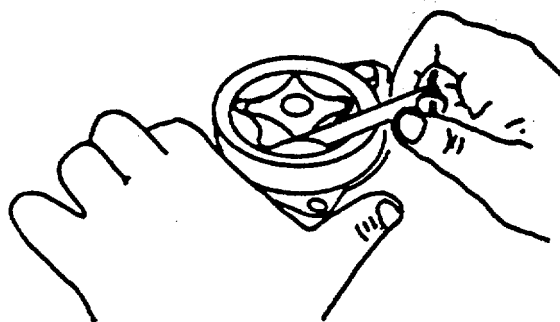

FIGURE 3-64. Tip Clearance Measurement
- g. Measure the tip clearance (FIGURE 3-64). Maximum: 0.007 inch (0.1678 mm).